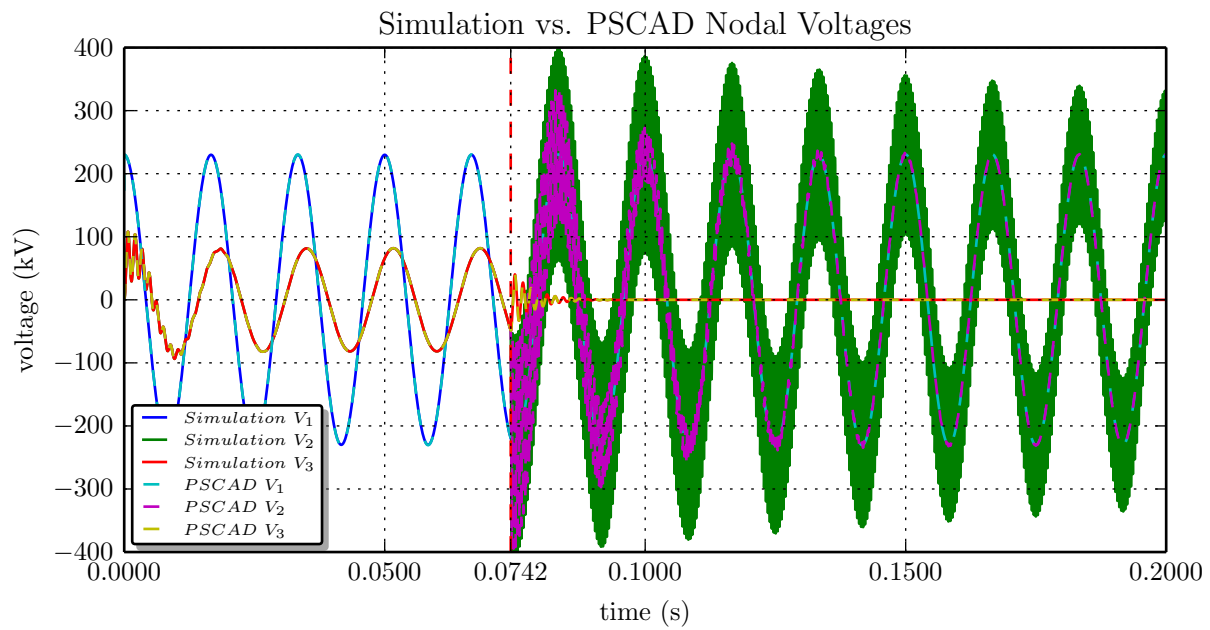

Figure 3: Plots of V_1 , V_2 , and V_3 nodal voltages
- Plots of V_1 , V_2 , V_3 for the simulation and PSCAD (Figures 3 and 4).